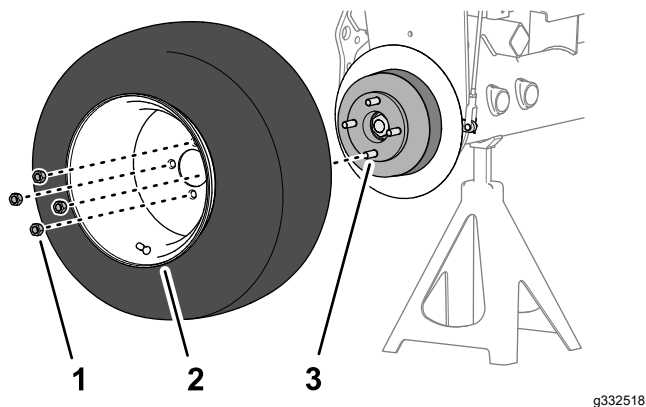

Figure 75
1. Assemble the wheel to the hub with the 4 lug nuts (Figure 75), and tighten the lug nuts by hand.